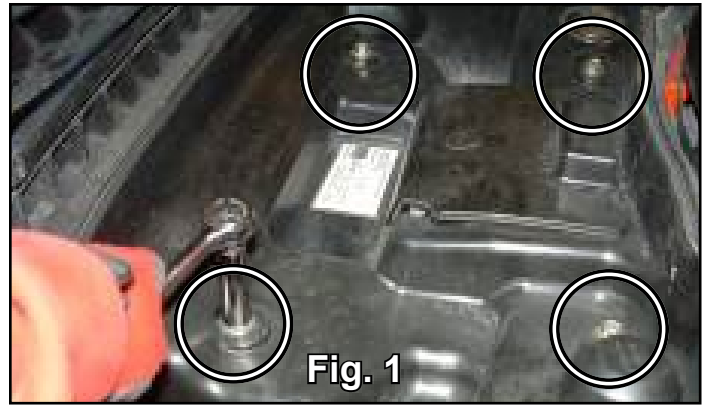

Fig. 1
2. Remove (4) Center Bolts of Rack. See Fig. 1.